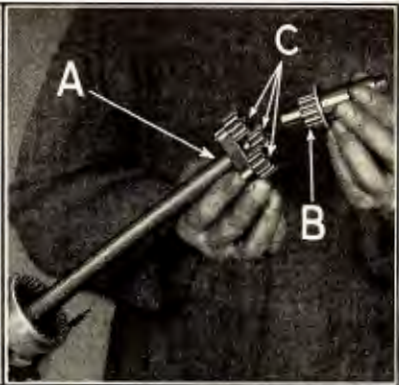

Fig. 388
- 750 Withdraw steering gear post (See "A" Fig. 388) from steering gear tubing and lift out steering gear drive pinion "B". The three steering gear pinions "C" can then be lifted from pins on steering gear spider.
769 The pinions are installed by inserting them over the ends of the three pinion pins. The steering gear drive pinion is then inserted into end of steering post and meshed with the three pinions (See Fig. 388).